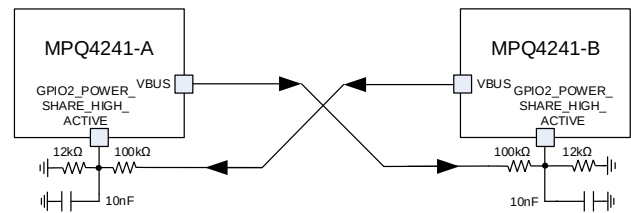

Figure 10: GPIO2 Power Share High Active Connection between Two MPQ4241 Devices
The MPQ4241 exits the power-sharing status after the GPIO2 voltage drops below V_{TH_PS} . Figure 10 shows the GPIO2_POWER_SHARE_HIGH_ACTIVE connection block. When $V_{BUS} > 11.2V$, the power-sharing function is triggered. Table 6 on page 28 shows the PDP of the MPQ4241-A and MPQ4241-B in the GPIO2_POWER_SHARE_HIGH_ACTIVE function.
13) The PDP table is based on the GPIO2_POWER_SHARE set-up in Figure 10 on page 27.